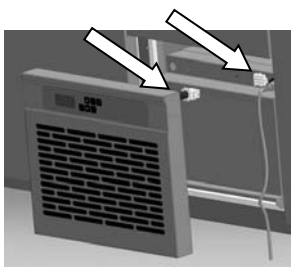

Fig.4. Pin-and-socket connector
4. Disconnect pin-and-socket connector from counter controller which is placed on chamber's cover (fig. 4)